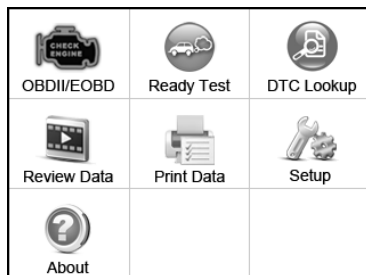

Figure 3.1
- 1) Use the **UP/DOWN** scroll button and **LEFT/RIGHT** scroll button to select **Review Data** from **Main Screen**, and press the **OK** button. (Figure 3.1)